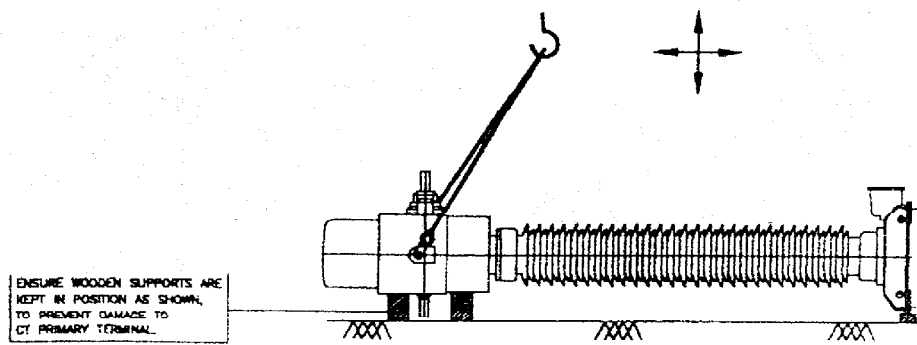

FIG.9
- For erection i. e. keeping the CT in the final position use single rope as shown in the fig. 9, 10 & 11